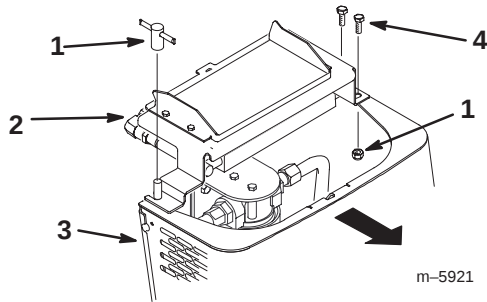

Figure 24
6. Remove the shoulder bolts, double washer, and nuts securing the oil cooler to the top of the front screen (Fig. 24).